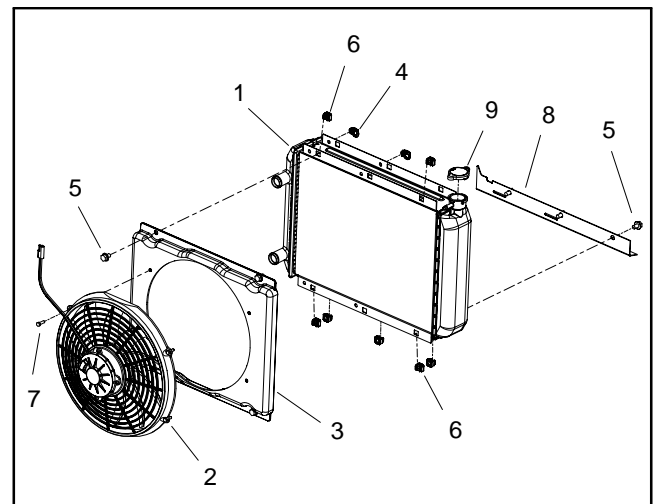

Figure 14
8. Disconnect reservoir hose (item 6) from the radiator filler neck.
- A. Remove two (2) flange head screws and flat washers that secure the top of the radiator assembly to the mount.
- B. Remove two (2) flange head screws and flange nuts that secure the bottom of the radiator assembly to the mount.
13. If necessary, remove components from radiator assembly using Figure 14 as a guide.
1. If radiator assembly was disassembled, install components to radiator using Figure 14 as a guide. Make sure that clearance exists between shroud and fan at all points.
4. Connect reservoir hose (item 6) to the radiator filler neck. Secure hose with hose clamp.